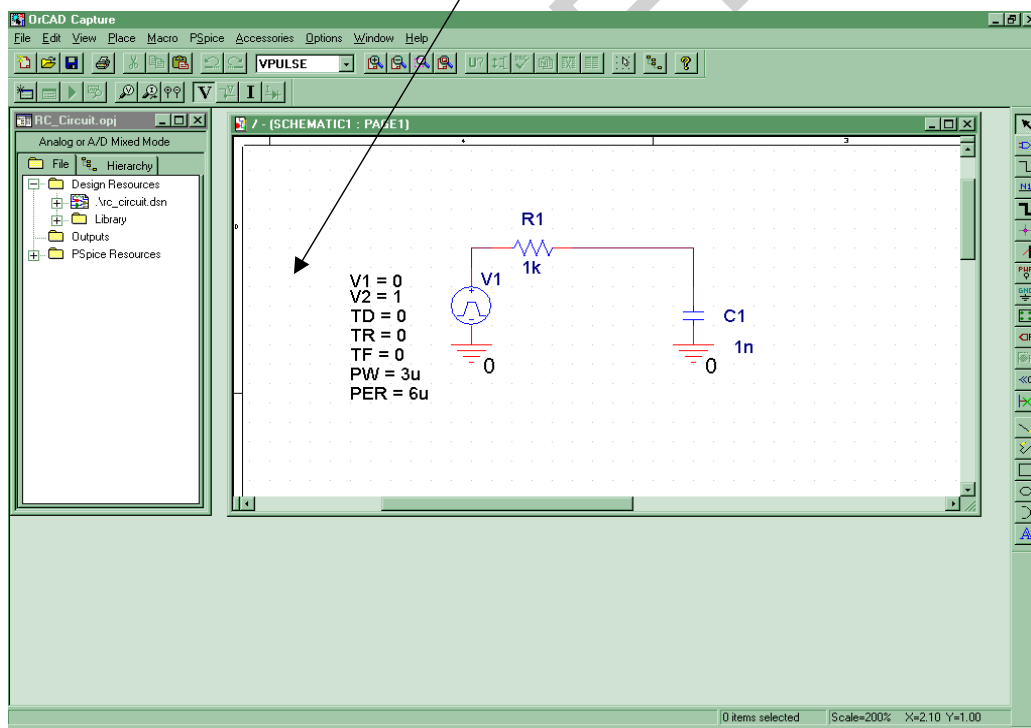

Fig:1
To start with, build the circuit that is illustrated in **Figure 1**. To do this start a new project called RC_Circuit. In so doing, put this project in the subfolder of the temp your desired directory and call it RC_Circuit also. A new factor here is the placing of a capacitor; yet, it works just like the process of placing a resistor. Another new factor is the use of the VPULSE voltage source. How do you place such a part?
- **GO Place→Part** and select the SOURCE library in the dialogue box. Then type in VPULSE as the type of source desired. This will produce a VPULSE symbol, which you can place like other components. Then you can double-click on each parameter listed with this source and fill in the values shown in **Figure: 1** **Here it is!** 😊